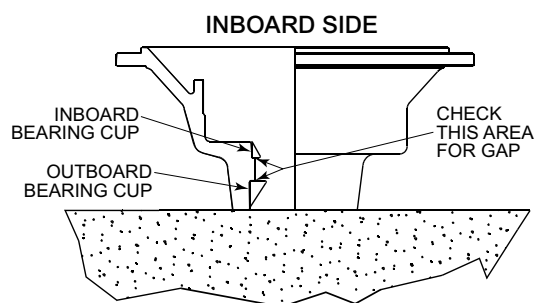

Figure 6.3.3 Installation of Inboard and Outboard Bearing Cups
3. With a 0.001" or 0.040 mm feeler gage, make sure that there is no gap between the housing and the bearing cups to insure proper cup seating; reference **Figure 6.3.3**.